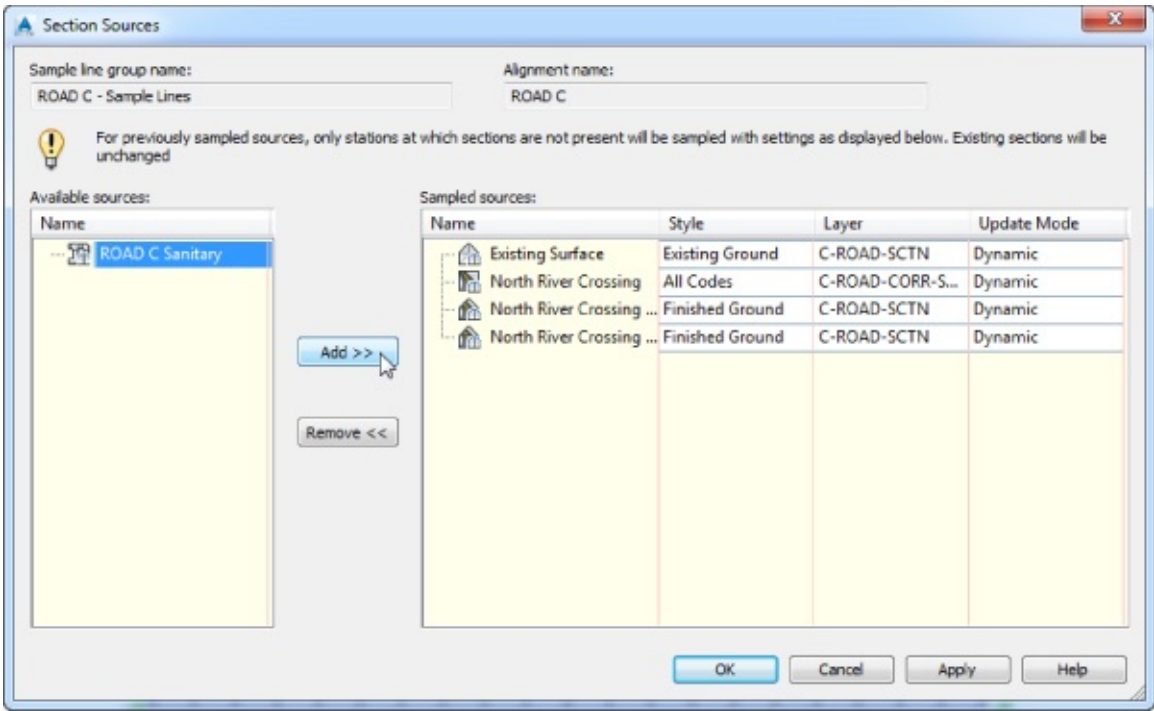

Figure 12.21 Adding sanitary pipe network to the cross-section view via Sample More Sources
4. In the Section Sources dialog, click ROAD C Sanitary on the left side of the dialog to highlight it, as shown in Figure 12.21, and then click Add.